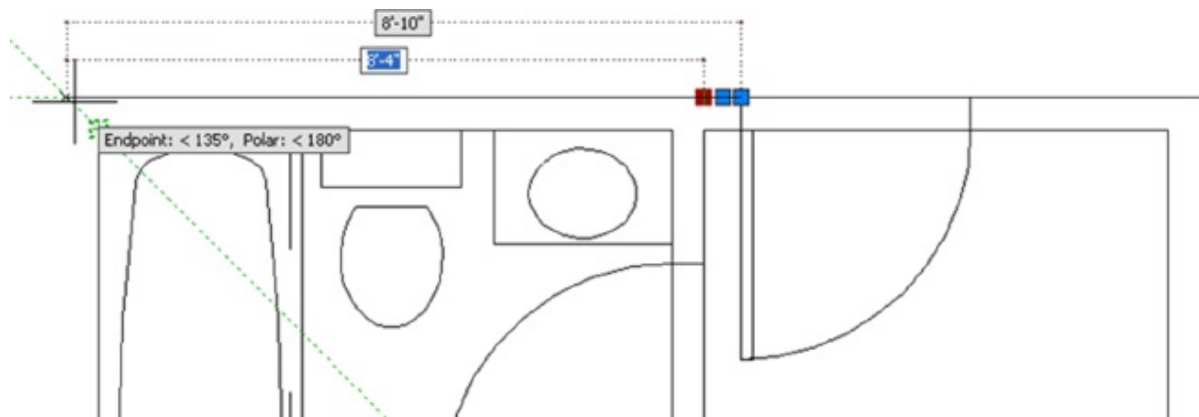

FIGURE 6.28 Extend the wall line using the Osnap Tracking vector.
5. Press the Esc key twice to clear your selection. Then repeat steps 1 through 4 for the horizontal wall line to the left of the door to extend that line to the left corner (see Figure 6.28).